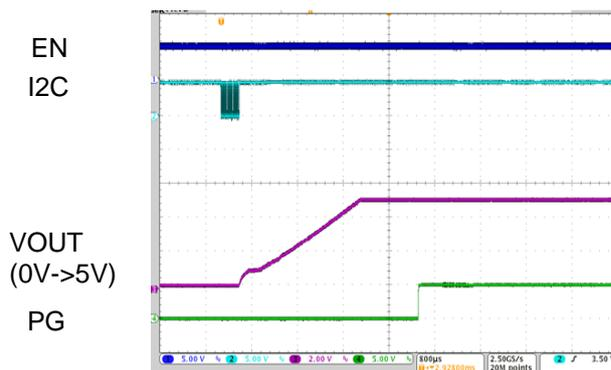

Figure 2.2 VOUT start waveform (start-up)
- 5) When the DCON bit in the DCDC_ON register is set to "1" by I2C, DCDC starts up and the set voltage is output at “VOUT” pin (Figure 2.2). At this time, the maximum output current and the output voltage are set, too.